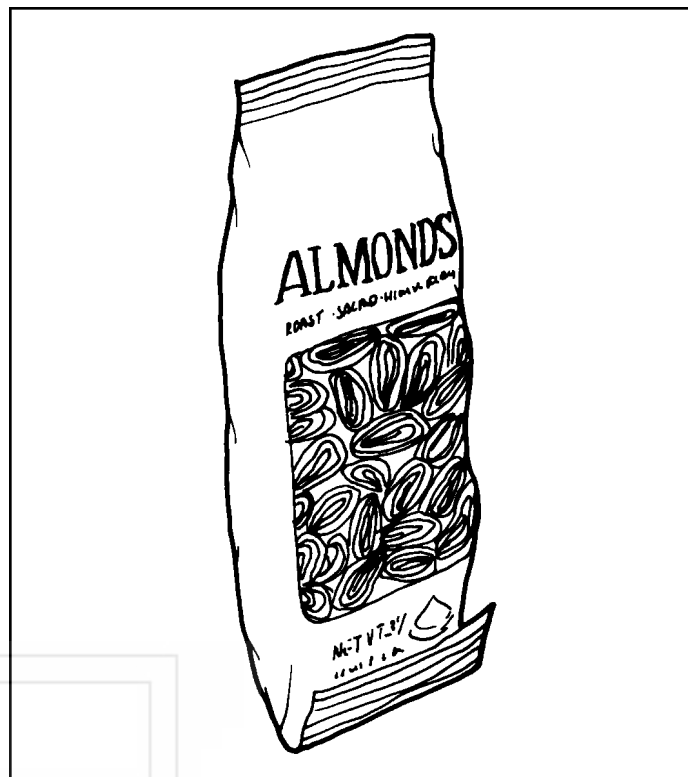

Figure 8. FOLD BAGGED ITEMS BOTTOM EDGE FORWARD AND UP.
9. BAGGED OR BOXED ITEMS in the 8-selection shelves if not loaded properly could be a problem. The sealed edge of the bag may get under the spiral wire causing the product to hang up after it has been vended. It is recommended that the lower edge of these types of product be folded forward and up (see Figure 8) next to the product before inserting into the spiral space. It is also recommended to use an 18 count spiral for bagged items because of the product settling to the bottom of the package.